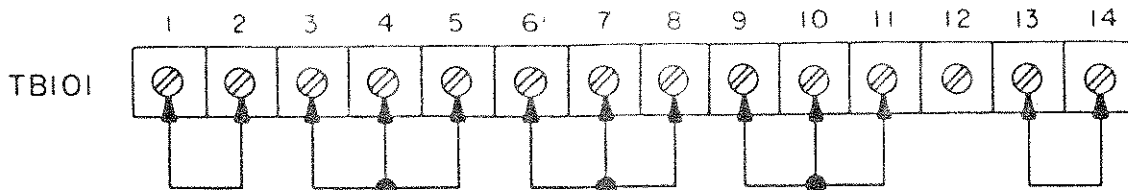

FIGURE 2. NORMAL OPERATION
- ✓ a. Check the barrier jumper straps on the back of the unit, as shown in Figure 2, for normal mode.
- ✓ d. Turn the CIRCUIT BREAKER (1) on/off switch to "on". The fans will start immediately but there is a 10 to 15 seconds delay before voltage or current output will occur. This is caused by the soft start circuit.
- ✓ e. The UNIT ON INDICATOR (2) should be on.
- ✓ f. Advance CURRENT CONTROL (5) one-half turn and slowly advance VOLTAGE CONTROL (3). The DC VOLTMETER (4) will deflect from zero to maximum rating of the supply as this control is advanced com-
3.3.1 NORMAL OPERATION (Figure 2)